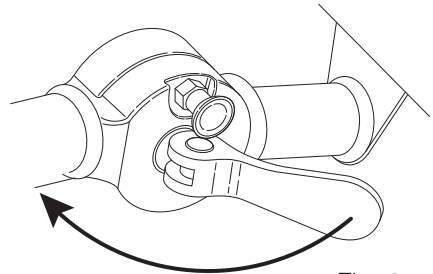

Fig. 9
3. Push the cam lever inward as hard as you can so that the hinge joint is immobilised. (Fig. 9)